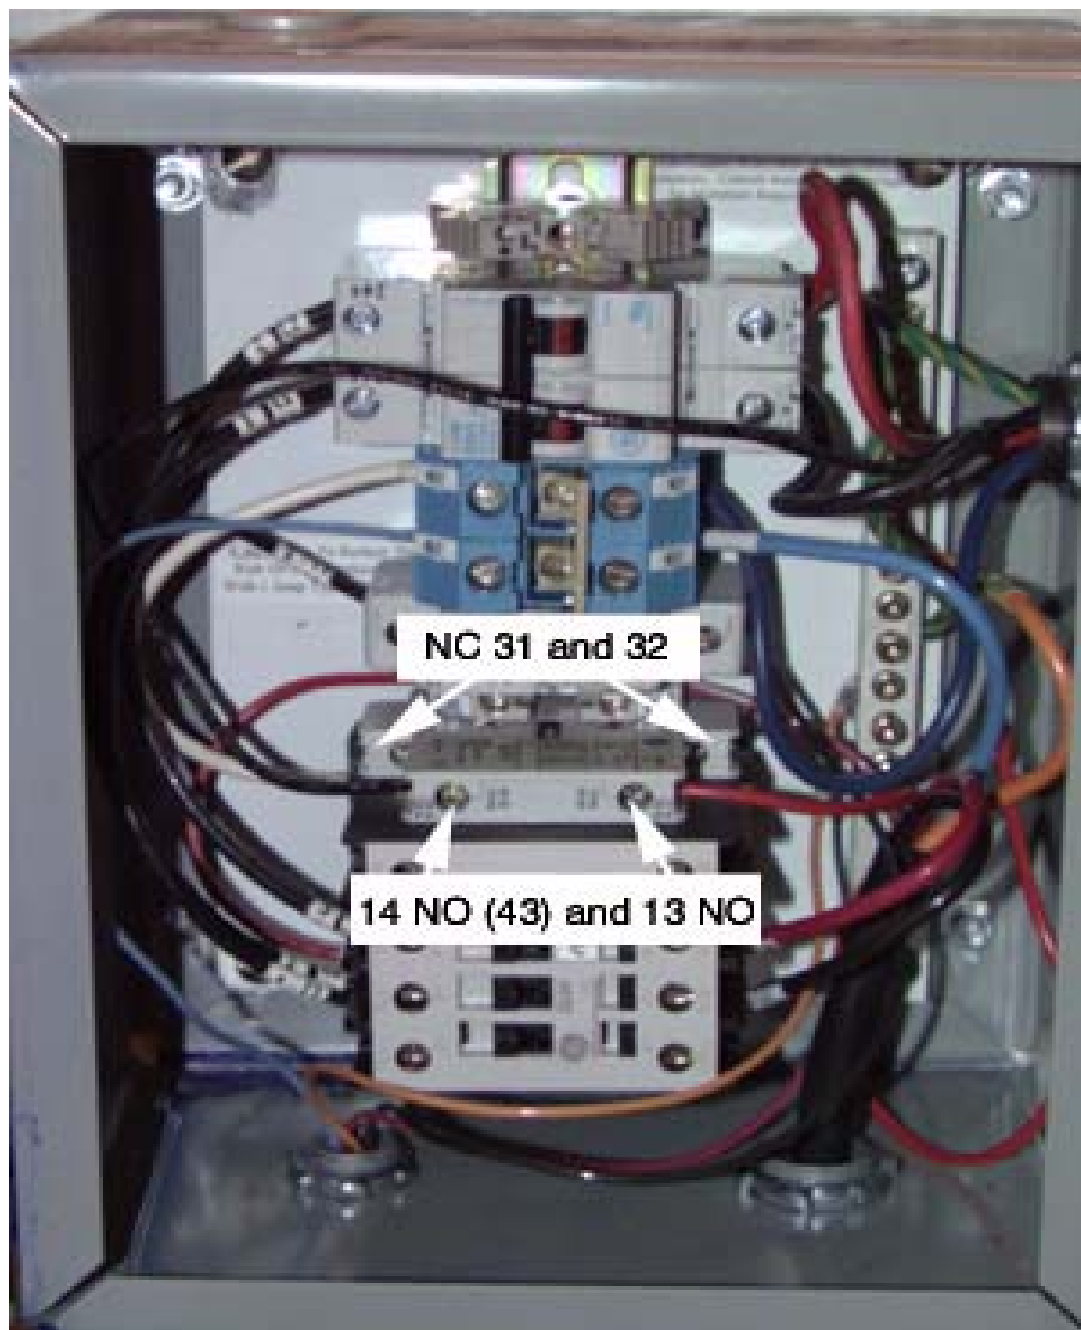
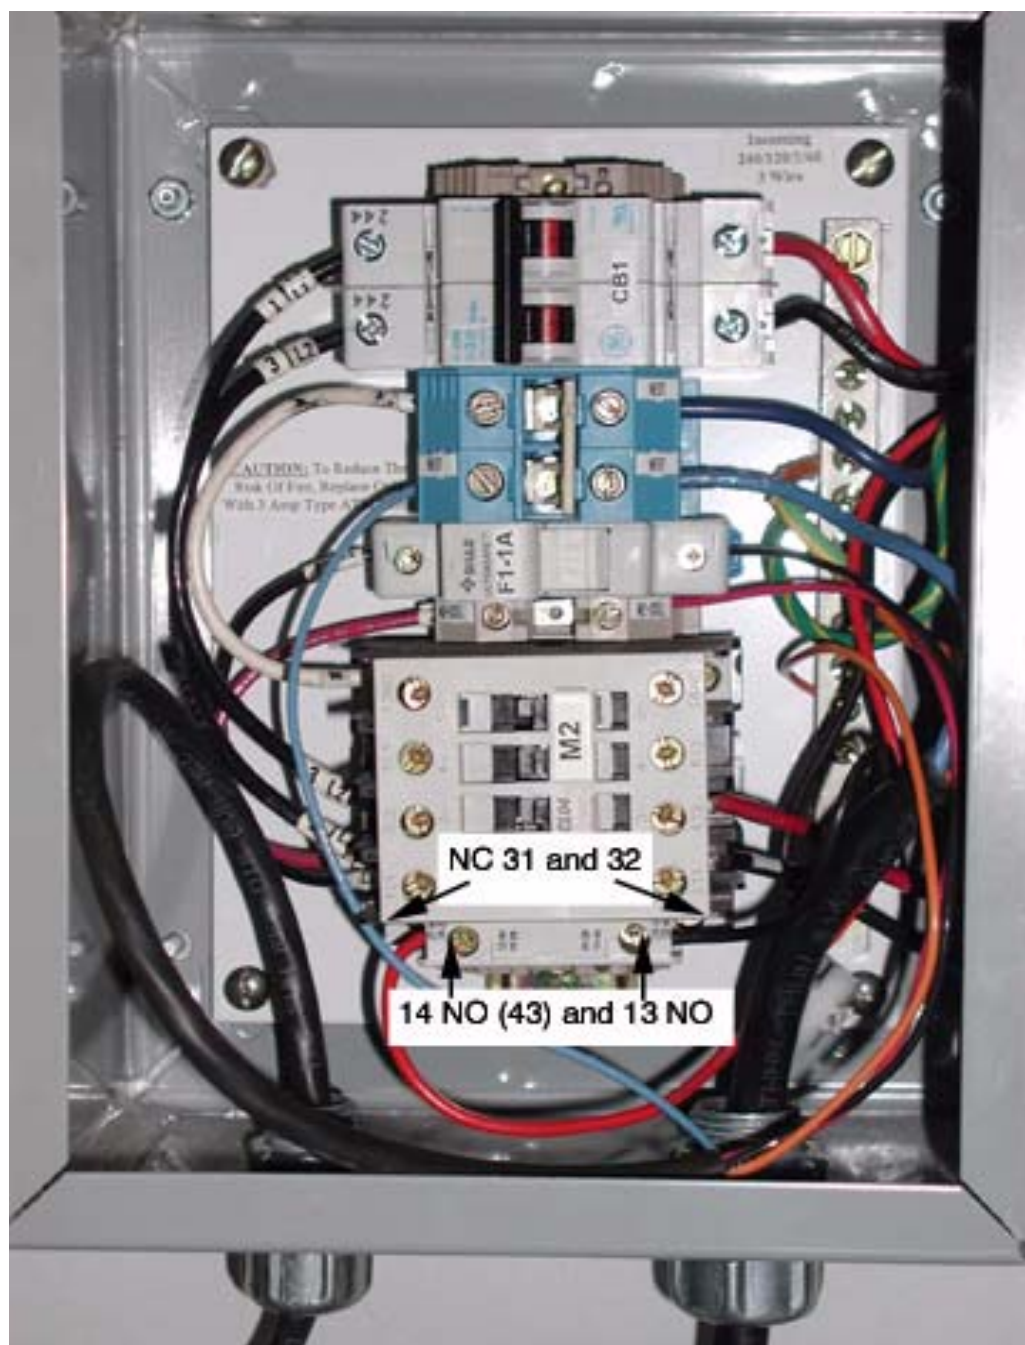

Figure 2-5 UPS Disconnect Panel Interior
Figure 2-6 Earlier model UPS Disconnect Panel
Reference Figure 2-5 on page 28 or Figure 2-6 on page 29.
- 5.) Connect the BLACK (#16) wire from the REPO to 21NC on the top of M2 contactor (32 NO). Reference Figure 2-5 on page 28.
- 6.) Connect the RED (#16) wire from the REPO to 22NC on the top of M2 contactor (31 NO). Reference Figure 2-5 on page 28.